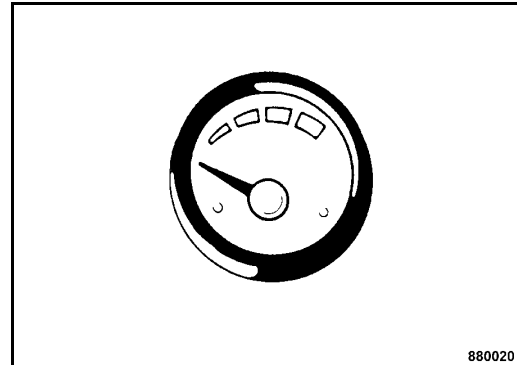

Fig. 80
- Check the water level indicator on the water tank (Fig. 80) whether the water tank is filled.